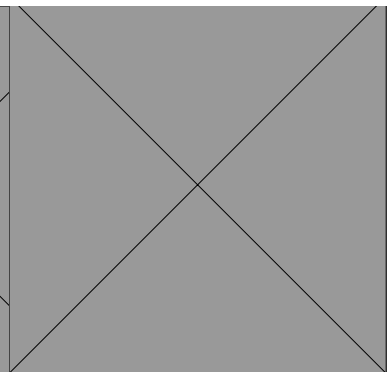

Figure 11
Step 3. From the bottom of the cover lift upwards to remove. Releasing fabric around the G-Cell panel as you lift (Figure11).